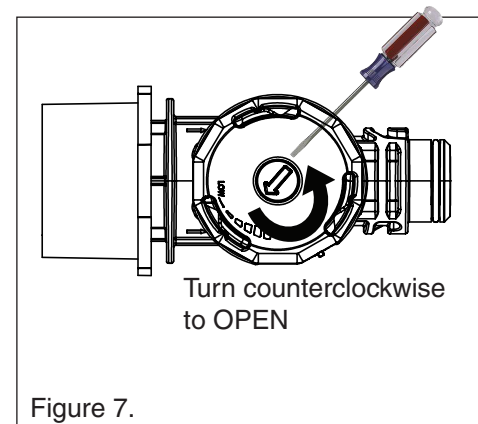

Figure 7.
4. Adjust the valve on the wall fitting using a flathead screwdriver by turning the valve clockwise (to reduce flow) or counter-clockwise (to increase flow) so that the white plunger aligns with the arrows on the flow gauge markings. **See figure 7.**